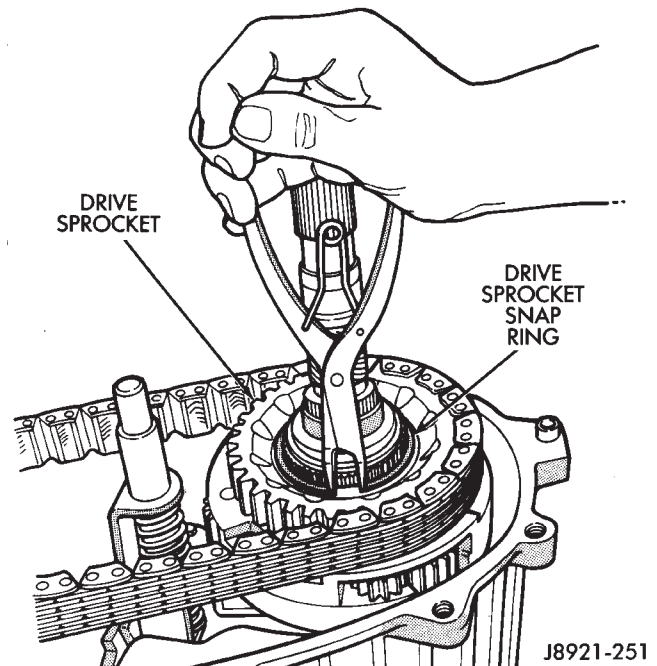

Fig. 22 Drive Sprocket Snap-Ring Removal
- (1) Remove drive sprocket snap-ring (Fig. 22).